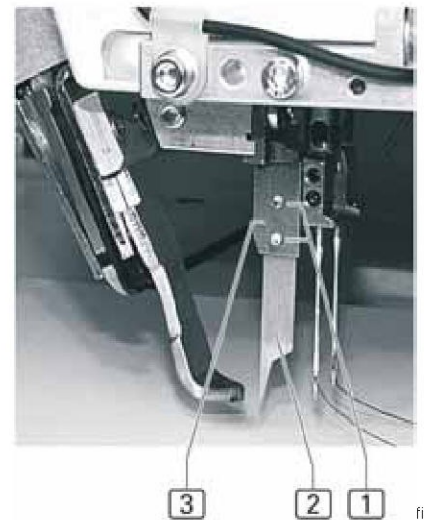

fig. 12
- fig. 12:** Loosen both screws **1**.